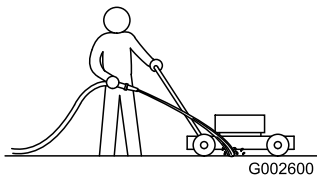

Figure 24
- With the engine running on a flat paved surface, spray a stream of water in front of the right rear wheel (Figure 24).